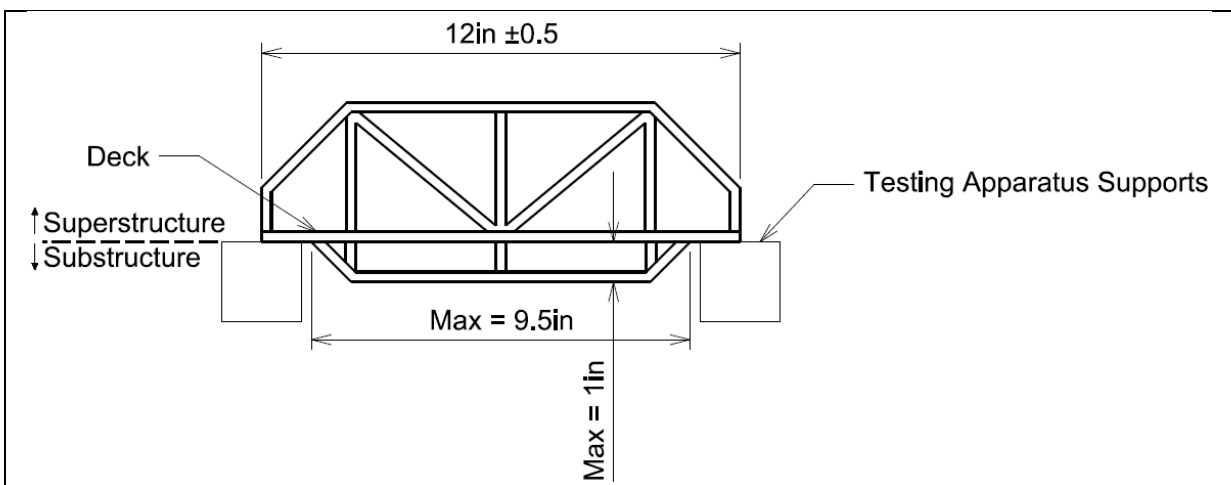
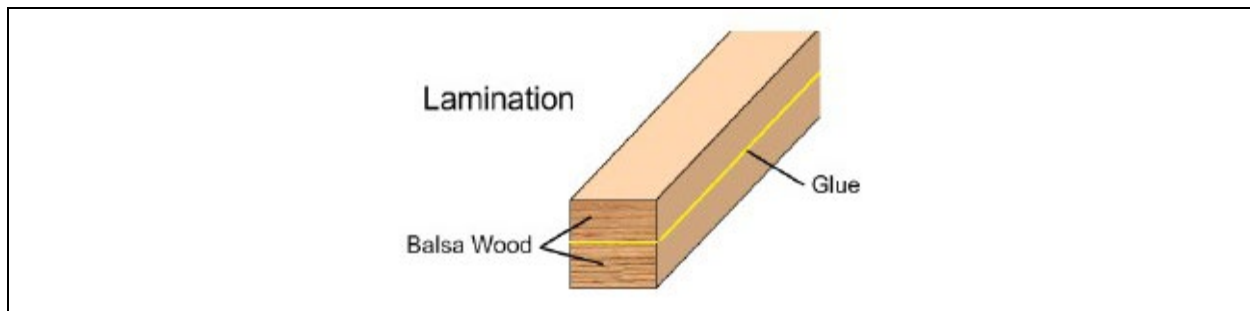

Figure 1. Bridge Dimensions
Figure 2. Lamination of Balsa Wood Members is Not Permitted
2. The required dimensions of the bridge are shown in Figure 1. Note that the portion of the bridge that is above the testing apparatus supports is referred to as the superstructure and the portion below the testing apparatus supports is referred to as the substructure. Bridges are not required to have a substructure.
- b) The total width of the bridge shall be 5 inches \pm 0.5 inches (not shown in Figure 1).
3. The bridge shall only touch the top of the supports as shown in Figure 1.
5. The bridge deck must incorporate an opening at mid-span to allow a 3/4-inch diameter testing rod to pass through and attach to the wood block (see item 4 above). The rod must be able to pass through the full height of the bridge.
6. Lamination (gluing two pieces of wood along their longitudinal length to increase strength) is not permitted (shown in Figure 2). However, joints may be thicker to accommodate joining wood pieces.